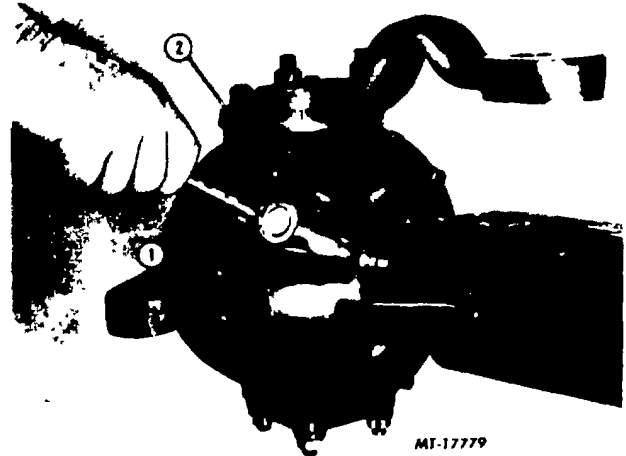

Fig. 3. Removing Retaining Ring Half (Halves) Mounting Bolts
3. Remove retaining ring half (halves) mounting bolts and lockwashers from back side of trunnion housing (Fig. 3).